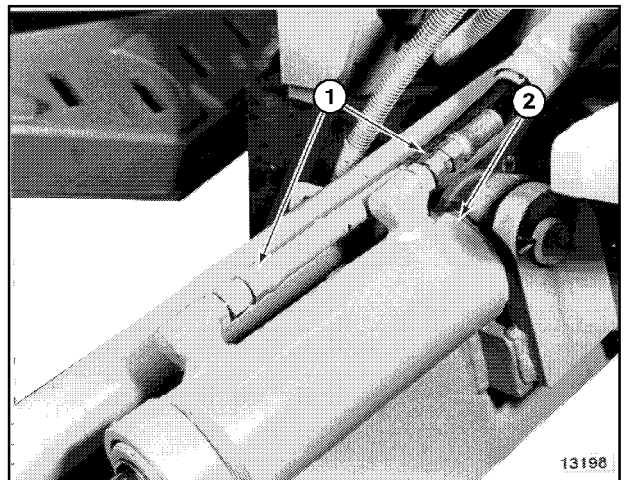

Figure 55
4. Install hoses (1, Figure 55) to leaning wheel cylinder (2) according to tags made as removal.